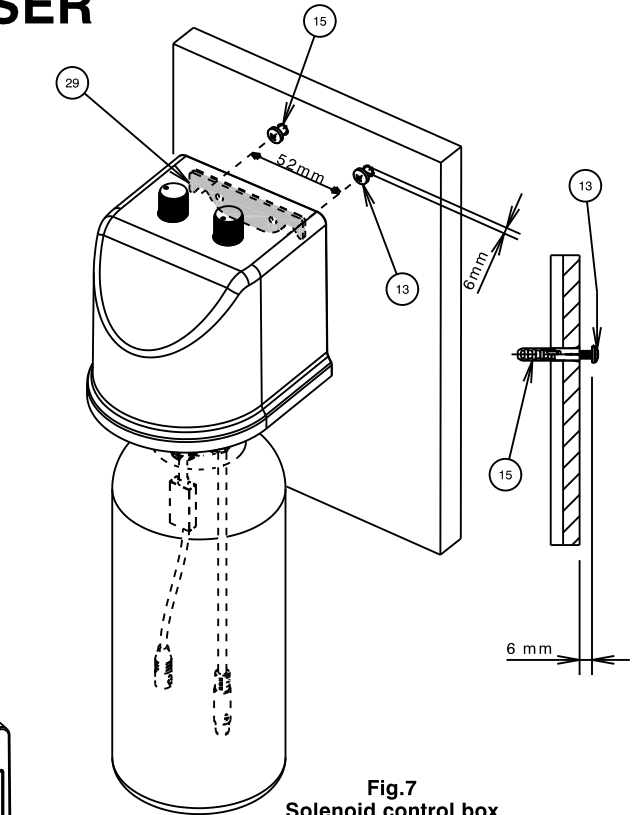

Fig. 7
- i) Remove the screws (28) using a phillips head screw driver.
- ii) Remove the wider fixing plate (14) and put it aside.
- iii) Take the narrower fixing plate (29) out of the bag, fit it at the back of the control box (12) by aligning the holes on the fixing plate (29) with the holes at the back of the control box (12). The cut-outs on the plate should be towards the bottom, as shown in Fig.7.
- iv) Fit the screws (28) and tighten, DO NOT OVERTIGHTEN.
- i) Drill two Ø6mm holes, 40mm deep and 52mm apart horizontally as shown in Fig. 7.
- ii) Insert small end of wall plugs (15) into drilled holes and tap until flush with wall/tile face.
- iii) Insert screws (13) into wall plugs, screw them until the head is 6mm away from wall/tile face as shown in Fig. 7.
- iv) Mount the control box (12) onto the screws (13).
- i) Drill two holes at 52mm apart horizontally to suit the self tapping screws supplied as shown in Fig. 7.
- ii) Insert screws (13) into the holes, screw them until the head is 6mm away from wall/tile face as shown in Fig. 7.
- iii) Mount the control box (12) onto the screws (13).